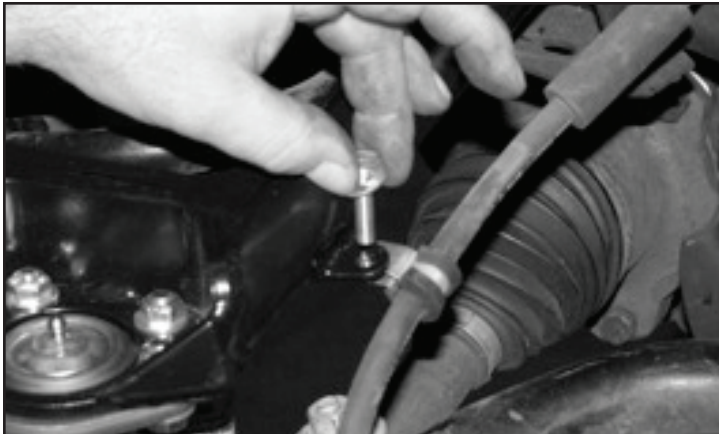

FIGURE 36 - STEP 39
39. Use an FTCLAMP, 1/4"-20 x 1" bolt, nut, and washer to connect the brake line to the control arm. **SEE FIGURE 36**